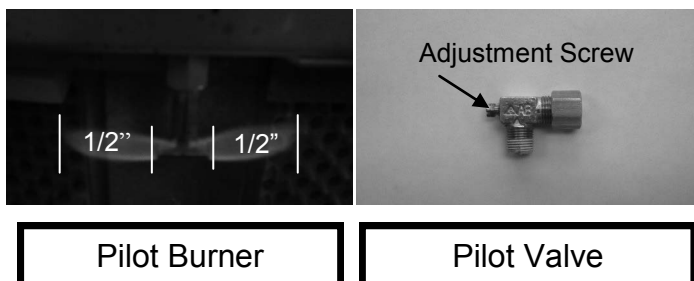

Figure 8. Pilot Burner and Pilot Valve
3. Adjust pilot valve adjustment screw so that each pilot burner has a steady blue flame, Figure 8.